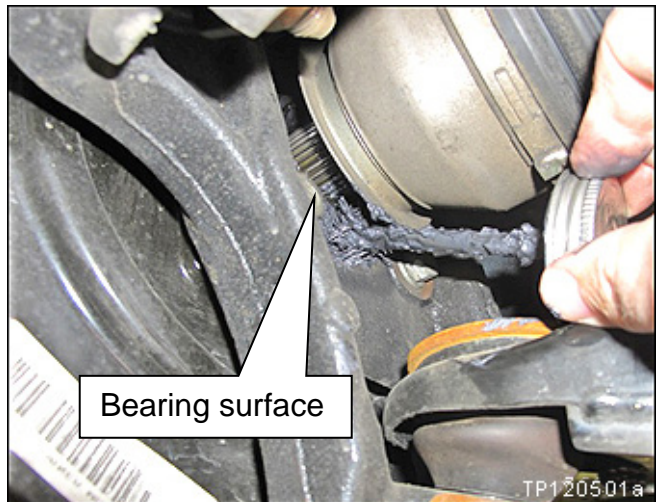

Figure 2
3. Apply a moderate coat of Molykote® (P/N 44003-7S000) to the entire (front or rear) wheel hub bearing surface (see Figure 2).